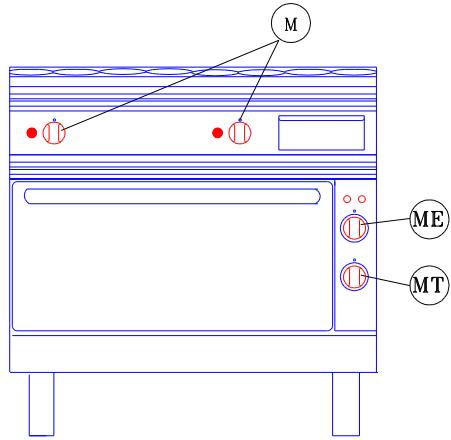

Fig.1 - Abb. 1
6.2 Use of the griddle plate (Fig. 1)
The griddle plate is equipped with a safety three-pole thermostat of manual reset. When the griddle plate is overheated, this element is enabled and disconnects the power supply from the heating resistors. The yellow LED is off, whereas the green one is kept on. In this case, disconnect the equipment turning the knob **M** to **0**, cut off the power supply turning off the main switch, installed before the fry-top, and call the after-sales service. The griddle plates of the fry-tops with size of ½ module is equipped with a control knob (**M** - fig.1) used also to adjust the cooking temperature; whereas the fry-tops of 1 module are provided with 2 knobs: each knob controls the temperature of half griddle plate. Moreover, each control knob is equipped with 2 warning lights (LEDs):
Connecting the heating of the griddle plate (fig. 1)
6.3 Use of the electric oven (Fig. 1)
This oven is equipped with 2 control knobs and 2 LEDs - warning lights (Fig. 1):
Turn the knob of switch **ME** (Fig. 1) to **3**; then turn the knob **MT** to the position corresponding to the desired temperature: the green and yellow LEDs are on. Thus the top and bottom resistors are powered at the maximum value until the desired temperature is reached: this is signaled by the yellow warning light getting off.
In case of any fault, stop the equipment operation turning all the knobs **MC**, **MT** and **ME** (Fig. 1) to **0**.